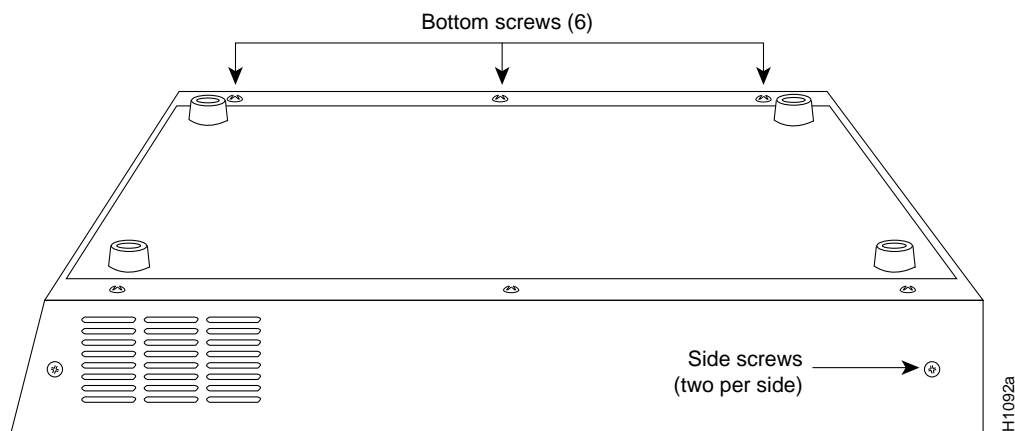

Figure 9 Screw Locations on the C Chassis Exterior—Side View
- Step 3** Use the No. 2 Phillips screwdriver to remove the ten screws that secure the cover of the C chassis. There are two screws on each side and six screws on the bottom of the chassis. (See Figure 9.)
- Step 4** Position the chassis so that the back (the side with the ports) is on your left; the front of the chassis (with the LED) is on your right; and the chassis top is facing up. (This is completely opposite of the chassis position shown in Figure 9.)